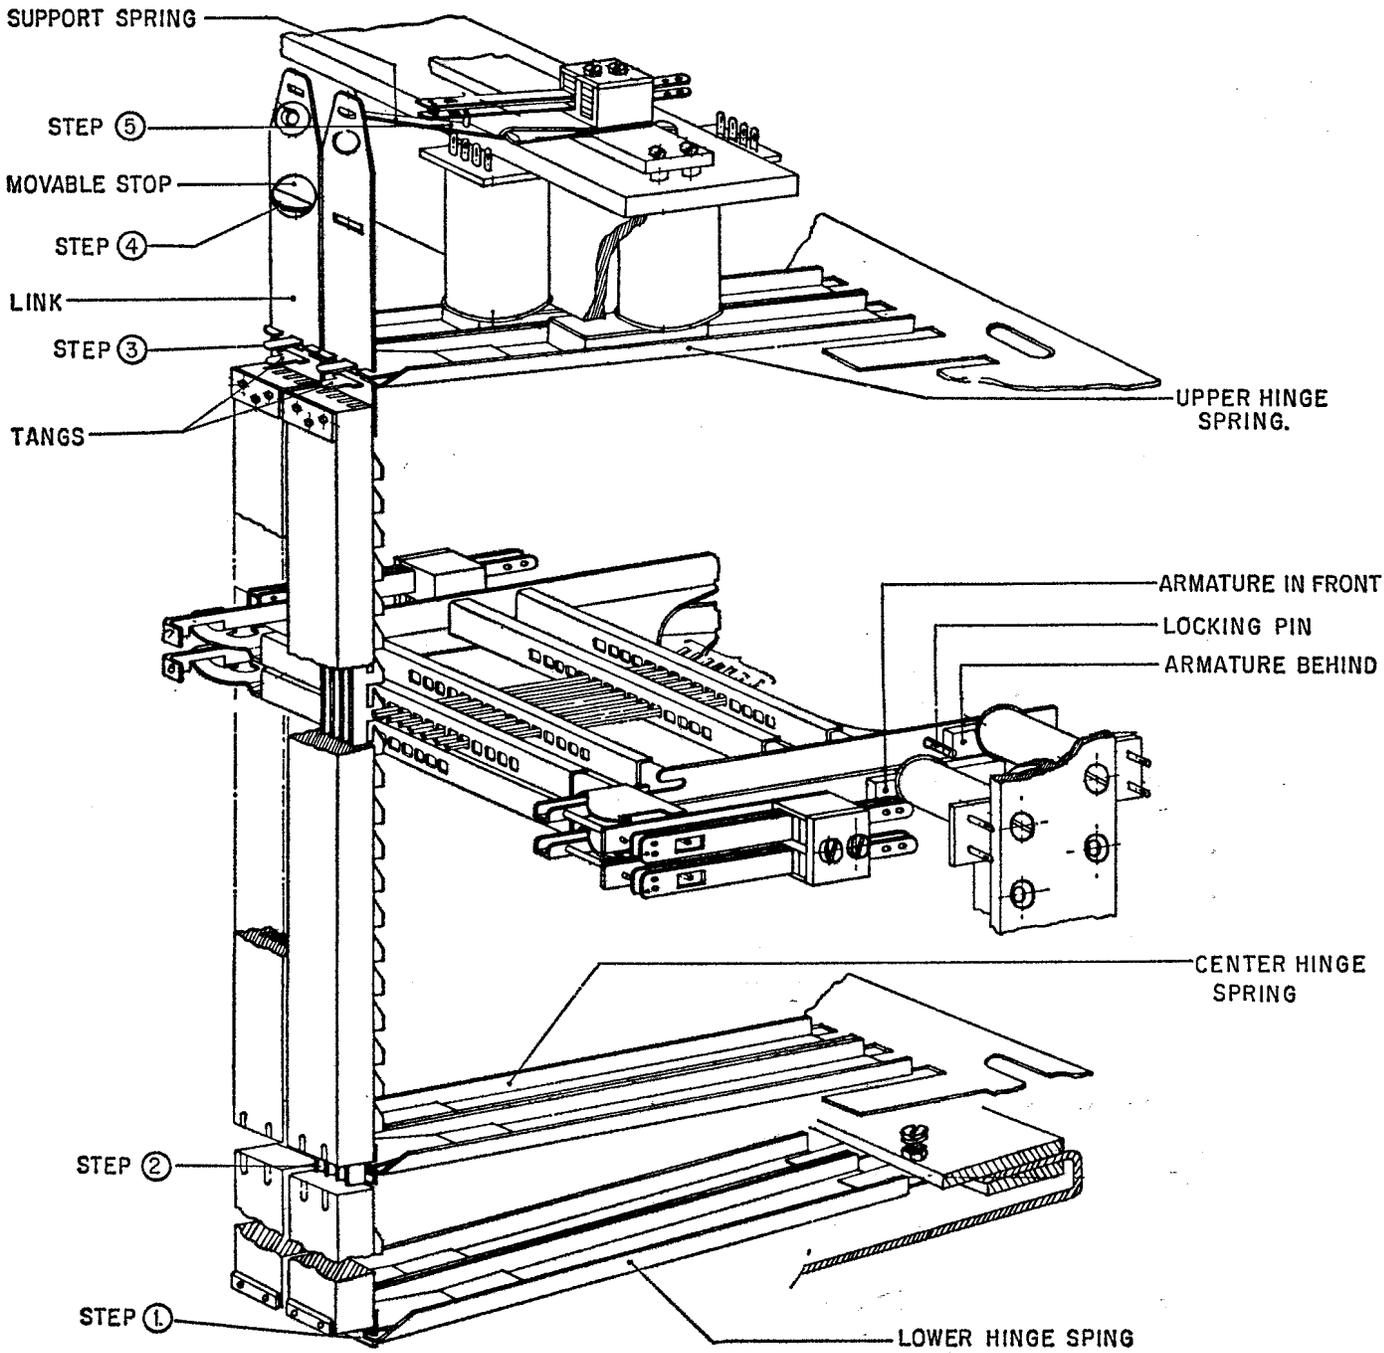

FIG. 3
3.04 **Vertical Bar:** To remove the ES or SS vertical bar (see Fig. 3) work from the front, and proceed as follows:
3.05 **Horizontal Bar:** To remove the ES or SS horizontal bar (see Fig. 3) work from the rear of switch, and proceed as follows: